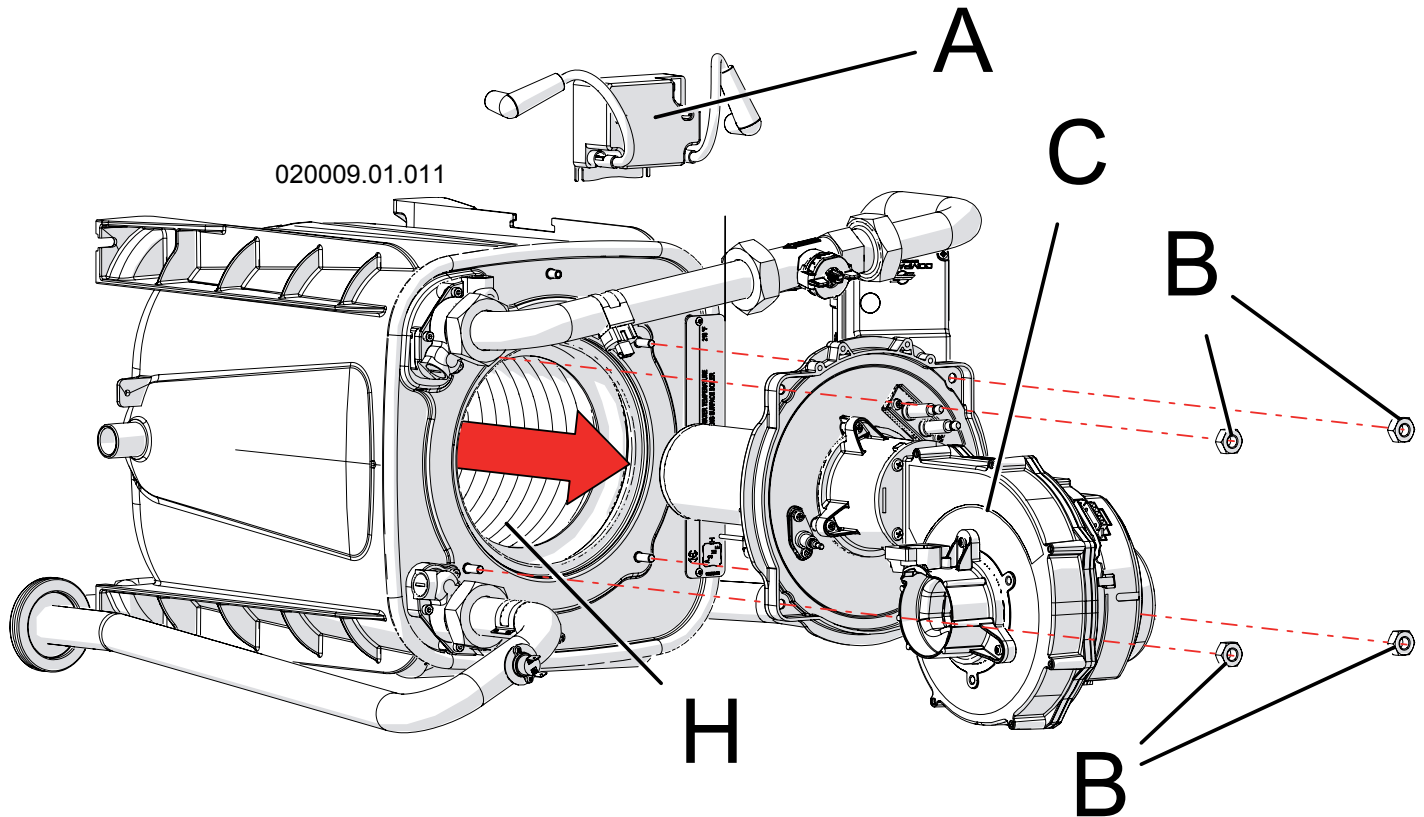

Figure 16-7 Remove the fan burner assembly
- 11.- Unscrew the four nuts "B" in Figure 16-7;
- 12.- Remove the entire fan - burner assembly, detail "C" in Figure 16-7;
- 13.- Use a cylindrical brush with plastic bristles to clean the inside of the combustion chamber, detail "H" in Figure 16-7;
- 14.- Use a vacuum cleaner to remove any unburned residue from the combustion chamber "H" in Figure 16-7;
! WARNING!!! While performing the next step, carefully wash only the inside of the combustion chamber "H" of Figure 16-7, and do not get water on the outside of the combustion chamber opening. Failure to comply with this warning can cause extensive property damage, severe personal injury or death!
- 16.- Using only water, wash the inside of the combustion chamber, detail "H" in Figure 16-7. The water, will drain into the condensate drain;